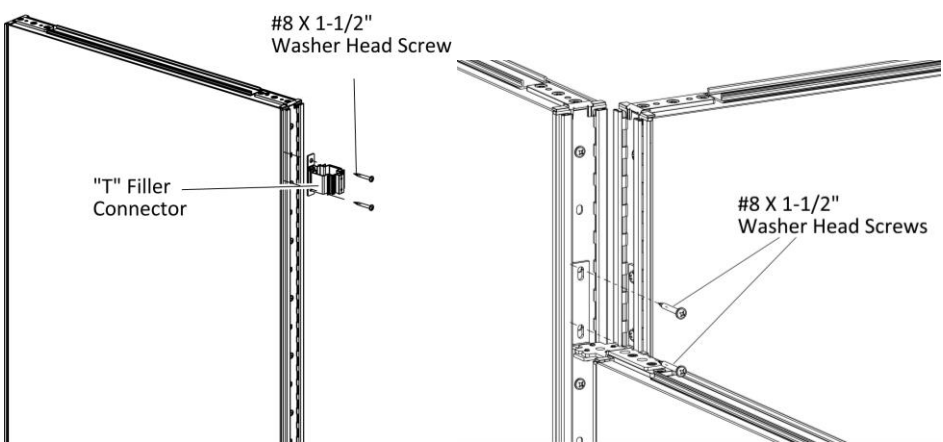

Figure 7
- 11. Drive two #8 X 1-1/2" Washer Head Screws through the holes in the intermediate panel connector into the taller panel, (Figure 7).